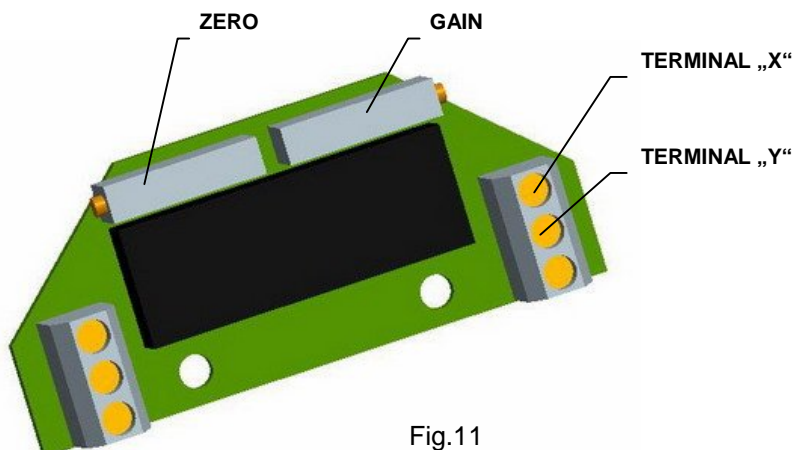

Fig.11
EPV – 3-wire version (Fig. 11)
- Adjust the resistive transmitter according to the previous chapter. The resistance is to be metered on the terminals X-Y (Fig. 11). The used transmitter resistance is 2000 Ω or 100 Ω .
- Turn the adjusting trimmer ZERO (Fig. 11) to adjust the output current signal rate measured on the terminals 81-82 to 0 mA or 4mA.
- Turn the adjusting trimmer GAIN (Fig. 11) to adjust the output current signal rate measured on the terminals 81-82 to 20mA or 5 mA.